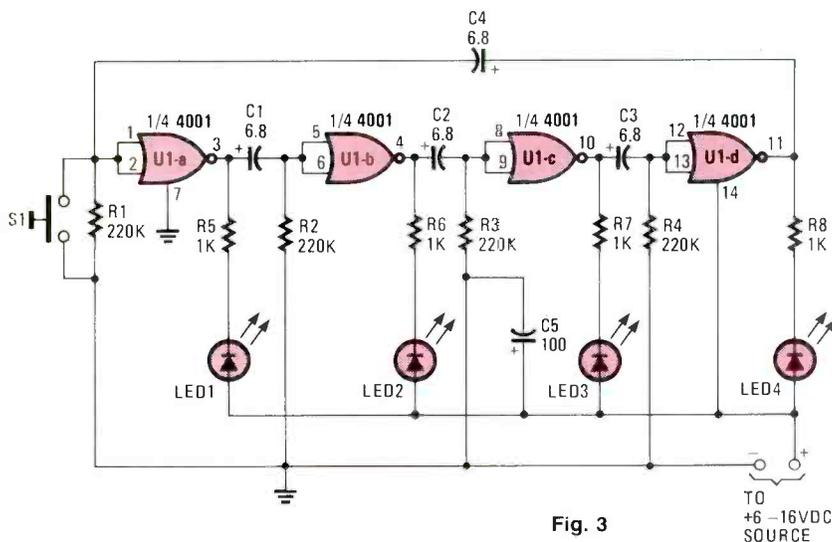

Fig. 3
Figure 3 shows some of the different types of filter configurations that might be used. The first wavetrapp (Fig. 3A) is a parallel-resonant circuit in series with the signal line. A parallel-resonant trap has a high impedance at the resonant frequency, but a low impedance on other frequencies, so it blocks the undesired frequency. Figure 3B shows a series-resonant trap across the signal line. The series-resonant circuit is just the opposite of the parallel case: It offers a low impedance at its resonant frequency, and a high impedance
**PARTS LIST FOR THE CMOS QUAD RING-AROUND LED FLASHER (FIG. 3)**
on and off in pairs. But by using the other two gates in a similar circuit, as we've done in Fig. 3, an unusual ring-around, eight-LED flasher circuit can be produced. Although the second circuit is an